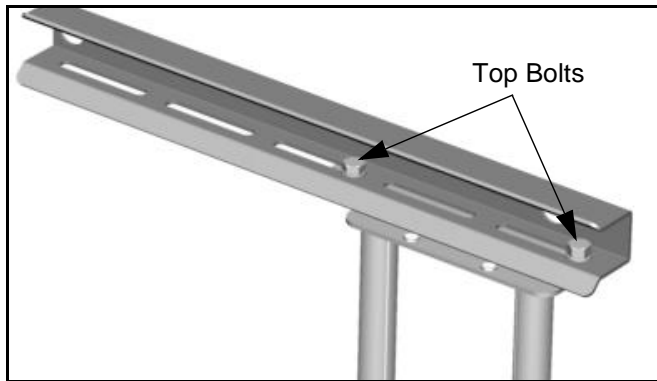

Figure 15
- For Right of Center, see Figure 15.